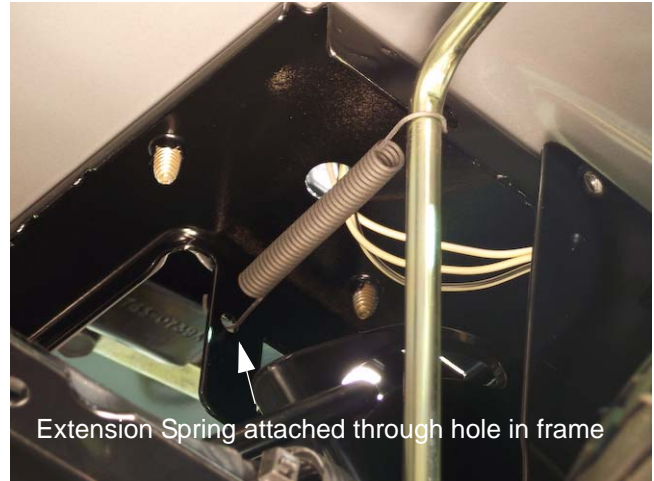

Figure 4.14
13. Remove the extension spring that attaches between the shift lever and the hole in the seat frame bracket below the left fender. See Figure 4.14.